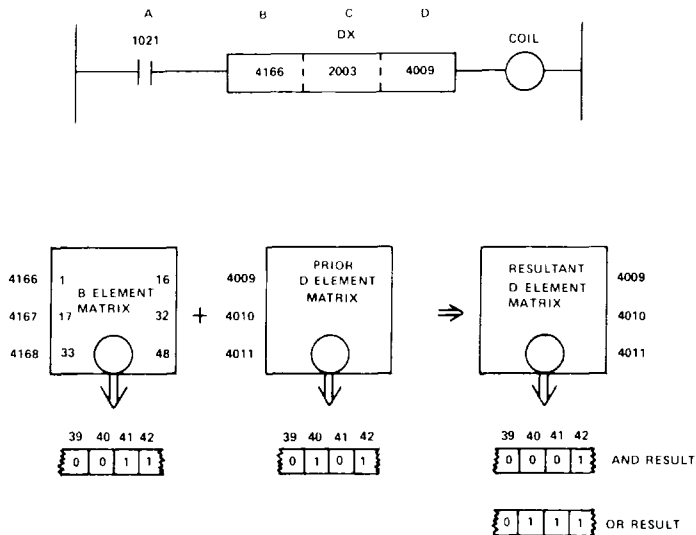

Figure 78. Sample Matrix AND and OR
For a one (1) to appear in the D element matrix after the AND operation, a one (1) must appear in both the B element matrix and the previous D element matrix; in all other cases, a zero (0) will appear in the resulting D element matrix. The coil has no significance, and is OFF in all cases. As an example, refer to Figure 78.
This code, when the A element is closed, causes the contents of the matrix referred to in the B element to be logically ORed with the contents of the matrix referred to in the D element, and the result stored in the D element matrix. This function operates similar to code 20XX discussed previously, except that a logical OR is performed between the two matrices. As an example, assume that the functional code of Figure 78 was 2103. The only difference in operation would be the specific results; bits 39-42 of the resultant D element matrix would contain a 0, 1, 1, 1, respectively.